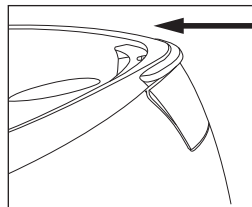

Abb. 2
- Before taking the steam station away for storage drain the remaining water from the water tank (2) and clean the steam station body (1) and the iron.
- Set the temperature control knob (9) to the position «MIN».
- Install the iron on the body of the steam station (1) and press the latch (4) (Fig. 2).